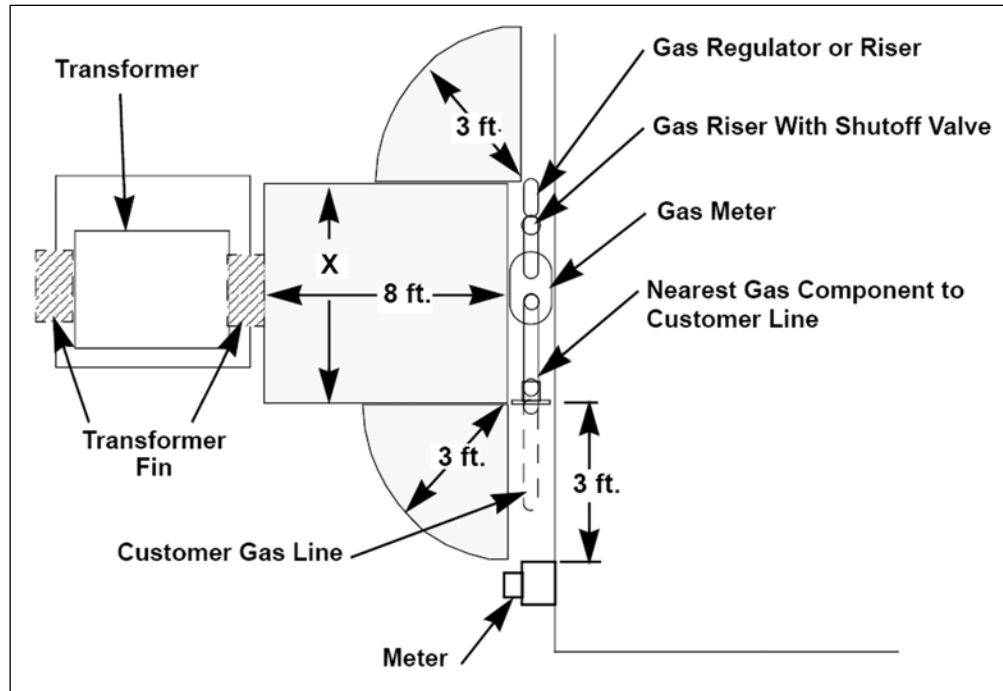
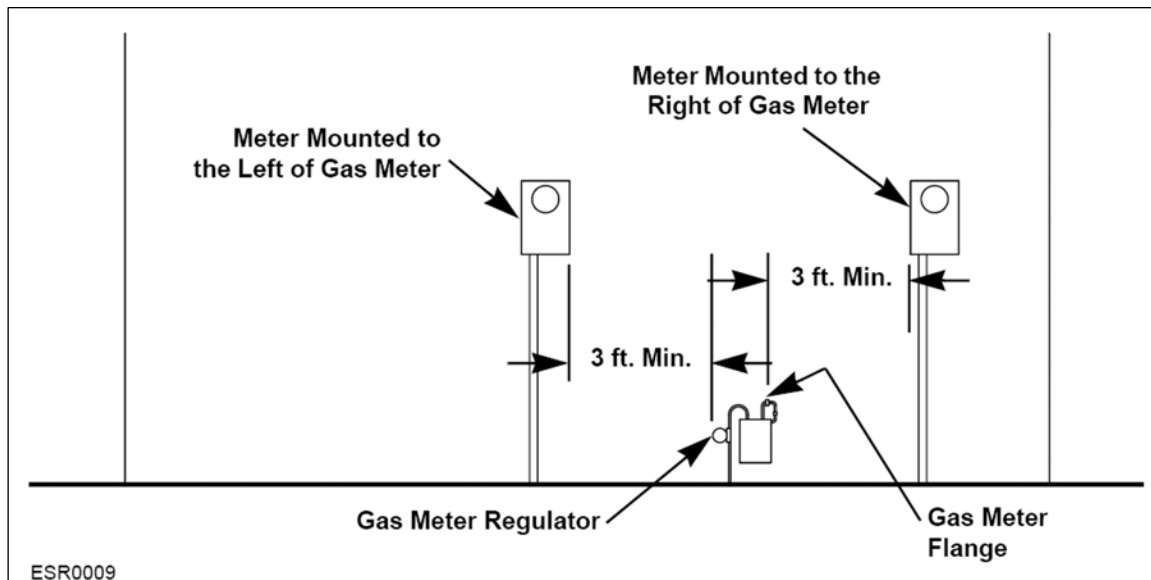

Figure 25: Separation of Electrical Equipment and a Meter from a Gas Meter Set
Figure 26: Separation of a Meter from a Gas Meter Regulator and Gas Meter Flange
Figure 25 and **Figure 26** show the separation requirements between electrical equipment and a meter and a gas meter set.
- The length of the gas meter set—dimension X in **Figure 25**—varies with the number of meters and associated equipment.